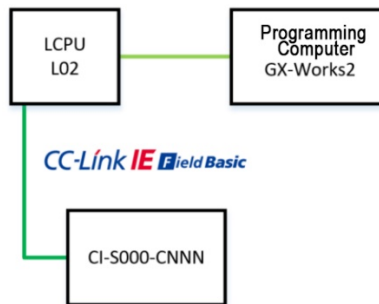

Fig. 5-3-1 Communication Link Diagram
1. See Fig. 5-3-1 for communication link diagram.